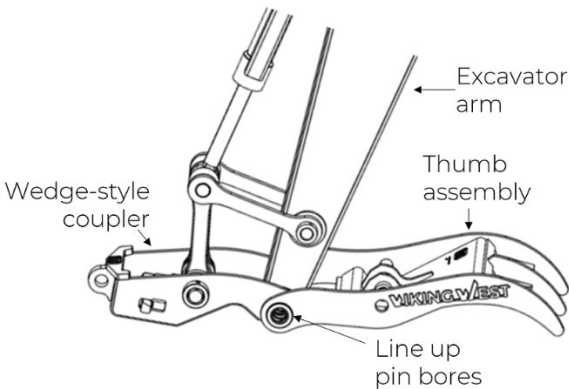

Figure 3: Lining up pin bores on coupler, excavator arm, and thumb assembly
5. Line up the pin bores in the coupler, excavator arm, and thumb assembly as shown in Figure 3 below.